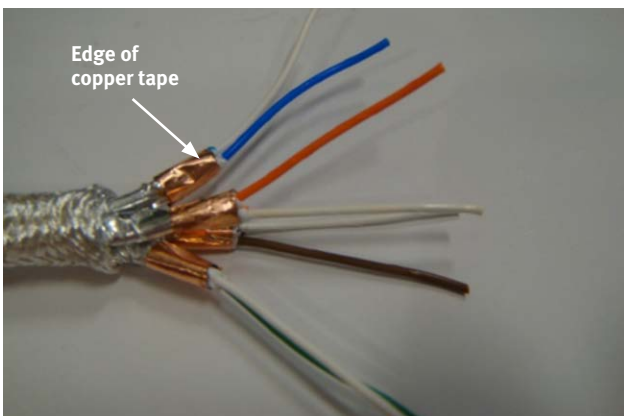

Figure 13: Stripping the pairs
9. Using 22-gauge hand strippers, carefully remove the outer-layer of the insulation from the copper tape to the end of each pair (Figure 13). Use your fingers or tweezers to remove any slug so that the cut is clean.